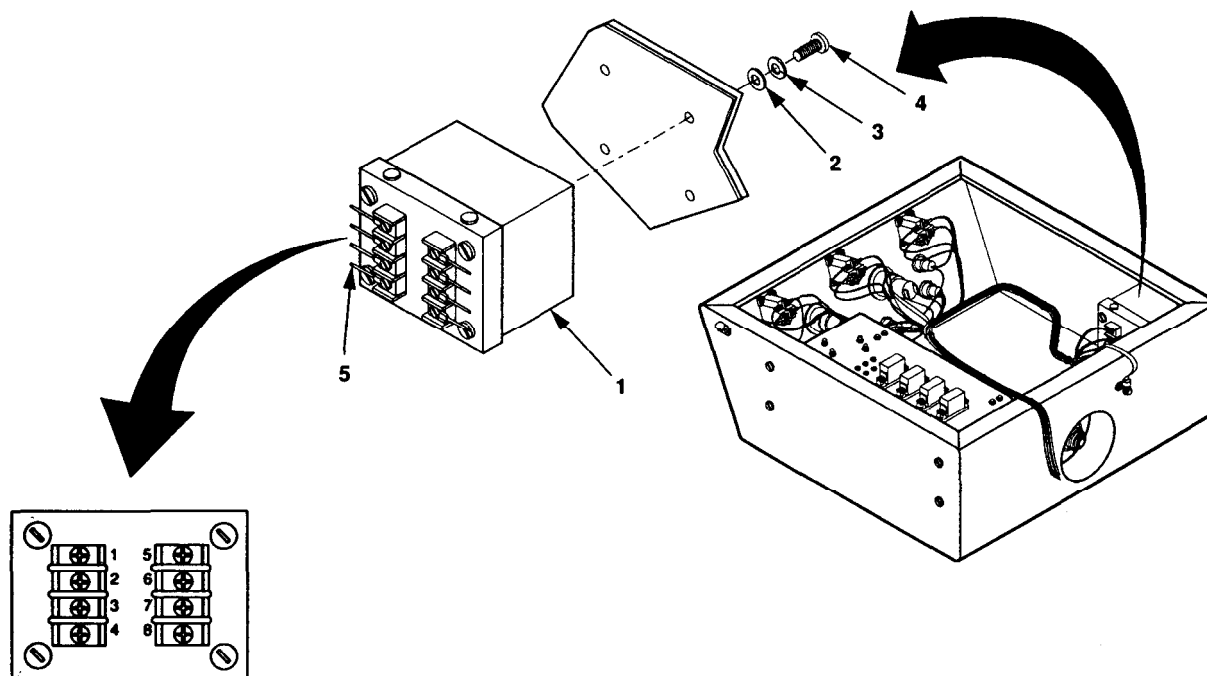

Figure 5-18. Permissive Paralleling Relay.
Tag and disconnect leads (5, figure 5-18). Remove four screws (4), lock washers (3), flat washers (2), and permissive paralleling relay (1).